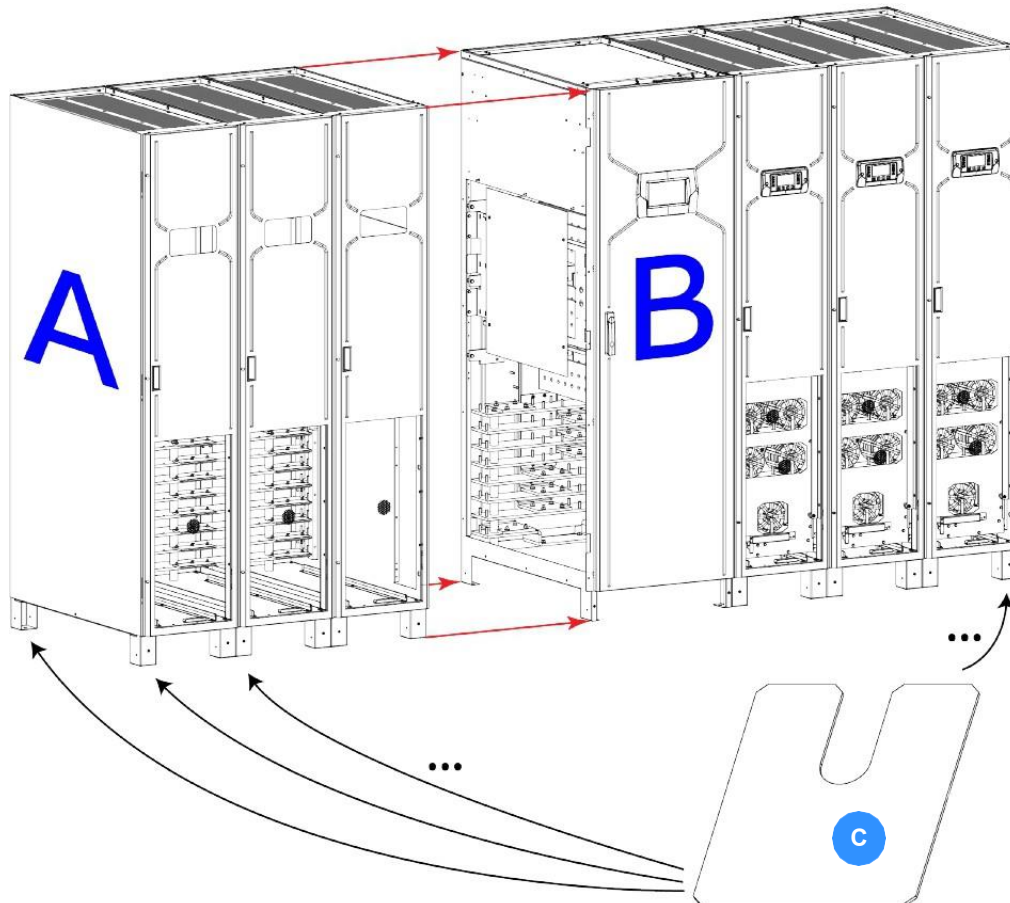

**Figure 5.6 UPS Module power locking handle**
- c. Ensure that the UPS module power locking handle is in the 'unlocked' position – fully towards the right hand side – as shown in Figure 5.6 (A).
- c. Ensure that the UPS module power locking handle is in the ‘unlocked’ position – fully towards the right hand side – as shown in Figure 5.6 (A).
- g. Lift the yellow safety lock to release UPS module locking bar then move the power locking handle to the ‘locked’ position – fully towards the left hand side, Figure 5.6 (A)..